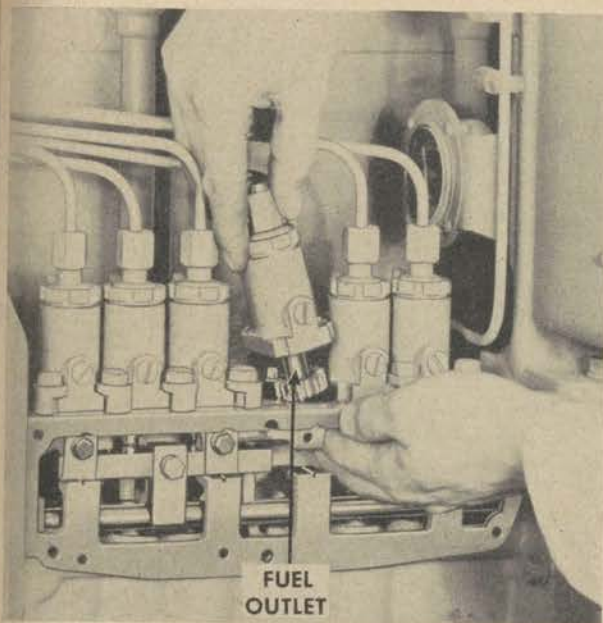

Figure 172. Removing fuel injection pump.
5. Cap the fuel outlet (fig. 172) on top of the fuel pump housing to keep out dirt.